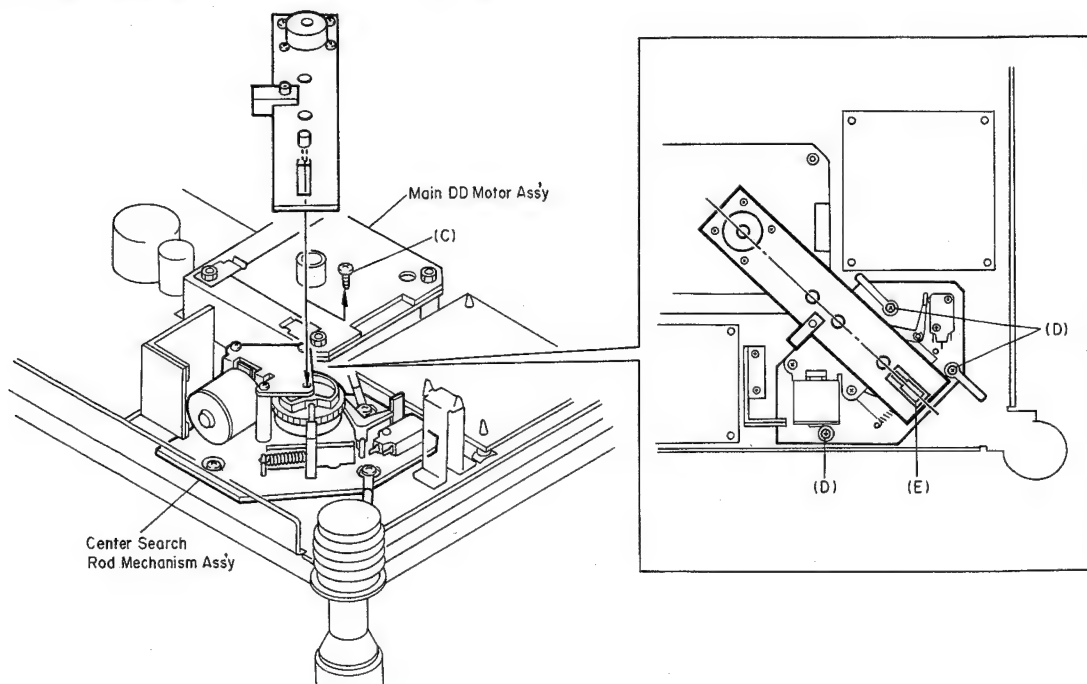

Fig. 5.6
- (1) Remove screw (C) from the Center Search Rod Mechanism Chassis and loosen three screws (D).
- (2) Install the Center Search Rod Positioning Gauge (DA0-9076A) as shown in Fig. 5.6. Protruding shaft of the Main DD Motor Ass'y is inserted into the hole of the Gauge, and the protruding pin of the Gauge is